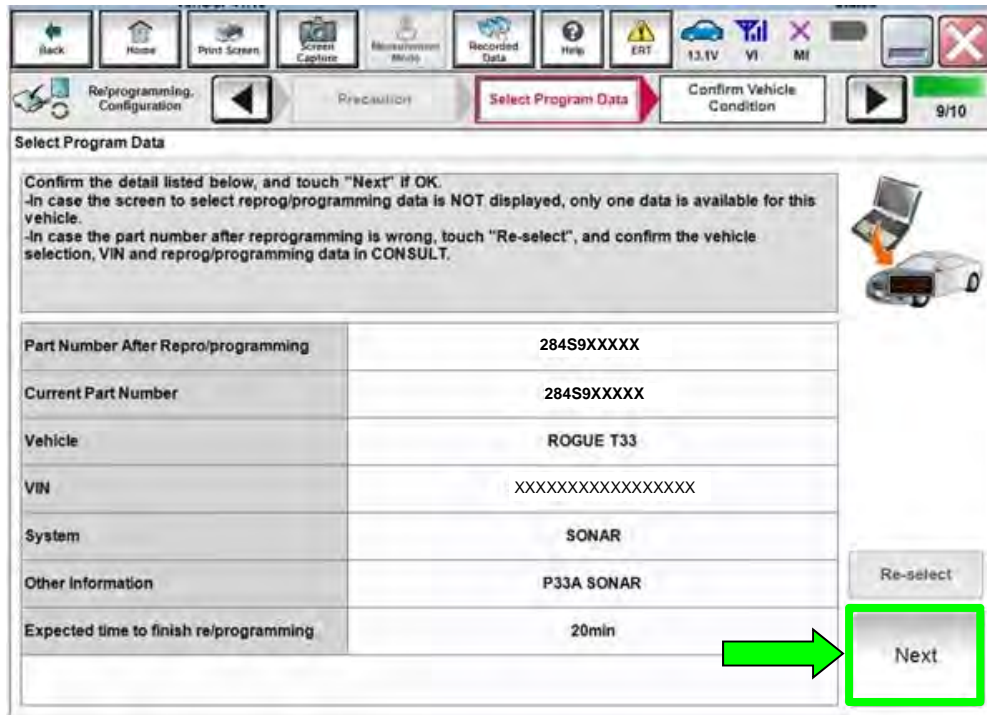

Figure 18
27. If the screen in Figure 18 displays, select **Next**. If the screen in Figure 18 does not display, continue to step 28 on page 14.